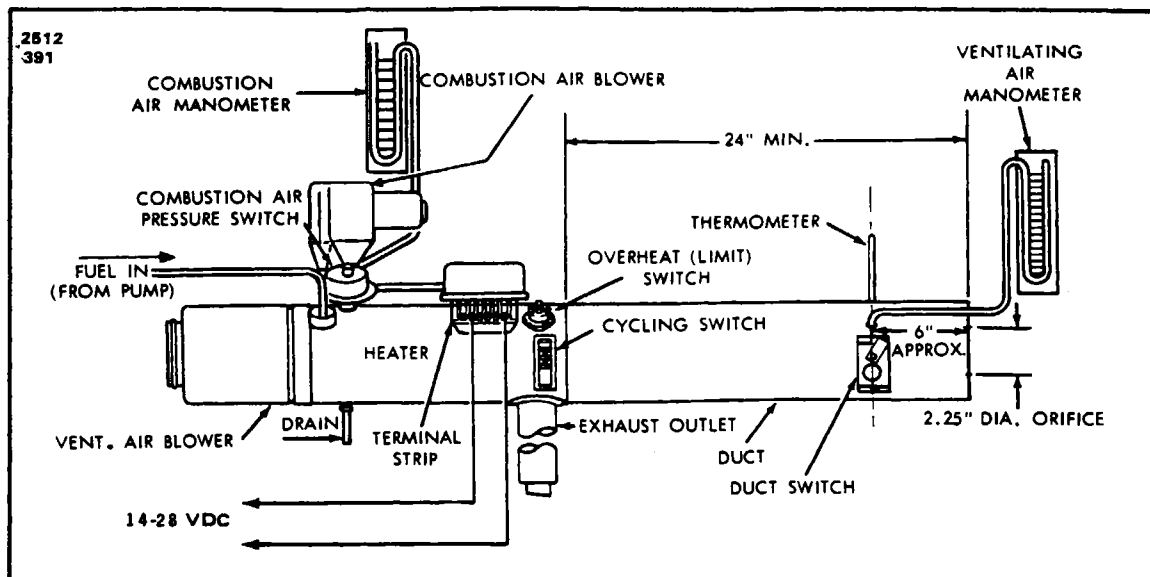

Figure 13-33. Suggested Set-Up for Heater Operation Test
13-131. EQUIPMENT REQUIRED. (Refer to Figure 13-33.)
- f. A piece of duct to be attached to the downstream end of the heater. It should have a minimum length of 24-inches and the same diameter as the heater being tested. A 2.25-inch diameter orifice should be centrally located at the outlet end. An aperture should be provided for the thermometer and duct switch and a static tap should be attached as shown in Figure 13-33.
13-132. OPERATIONAL TEST. (Refer to Figures 13-33 and 13-34.)
- Connect the heater to the test set-up as shown in Figure 13-33. Make sure the combustion air blower is mounted securely and that the heater is clamped to its supporting stand.
- Insert the duct switch in the sheet metal extension tube at the location shown in Figure 13-33.